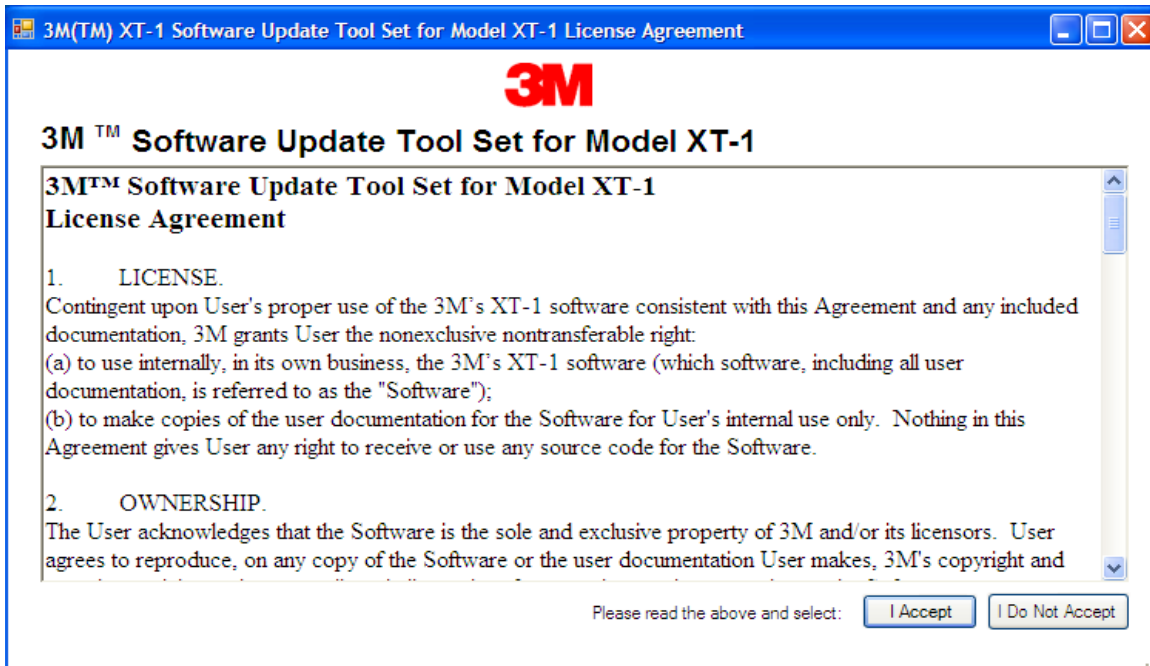

Fig.2 – License Agreement
4. A license agreement will appear the first time the program is opened. Read the agreement and click on “I Accept” to continue (*see Fig 2*).